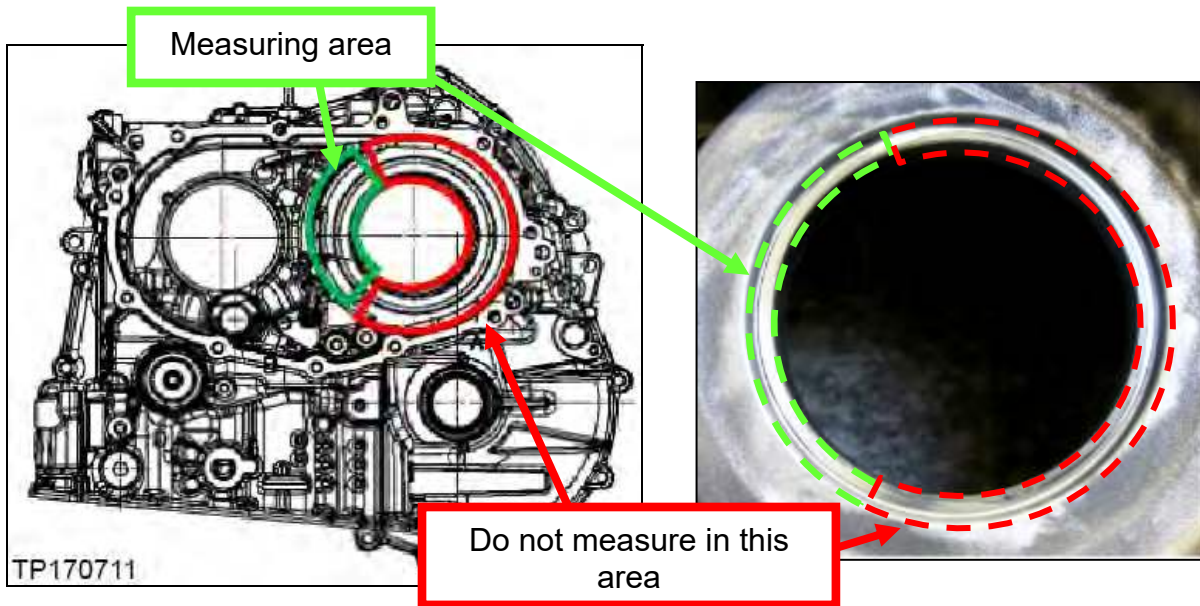

Figure 4M
- Refer to the Figures 4M and 5M and then proceed to page 60.
IMPORTANT: Please refer to Figure 4M for acceptable areas (highlighted in green) to measure " Y ".